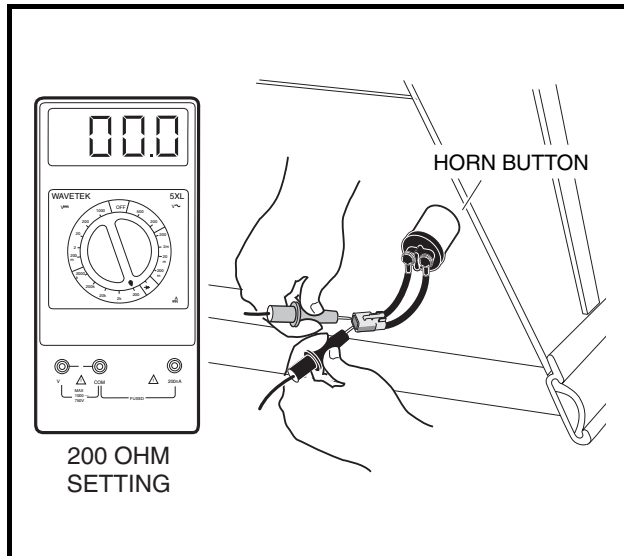

Figure 11-45 Horn Switch Test
4. Set a multimeter to 200 ohms. Place the probes into the two terminal plug holes in the horn switch wire harness (**Figure 11-45, Page 11-43**).